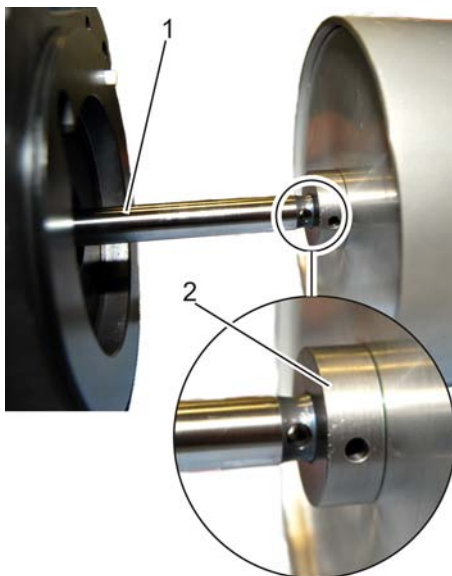

Fig. 76: Position piston rod
- 18.** Position lower cap with piston rod (Fig. 76/1) on piston mount (Fig. 76/2) and make sure that holes are aligned.